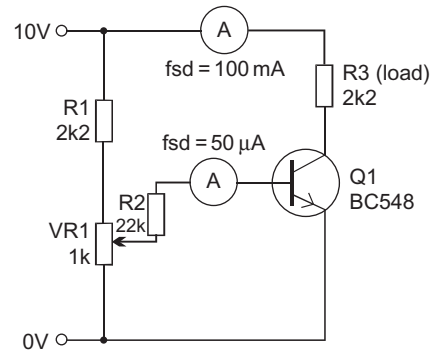

FIGURE 26.9
- 4 Figure 26.9 shows an experimental circuit.